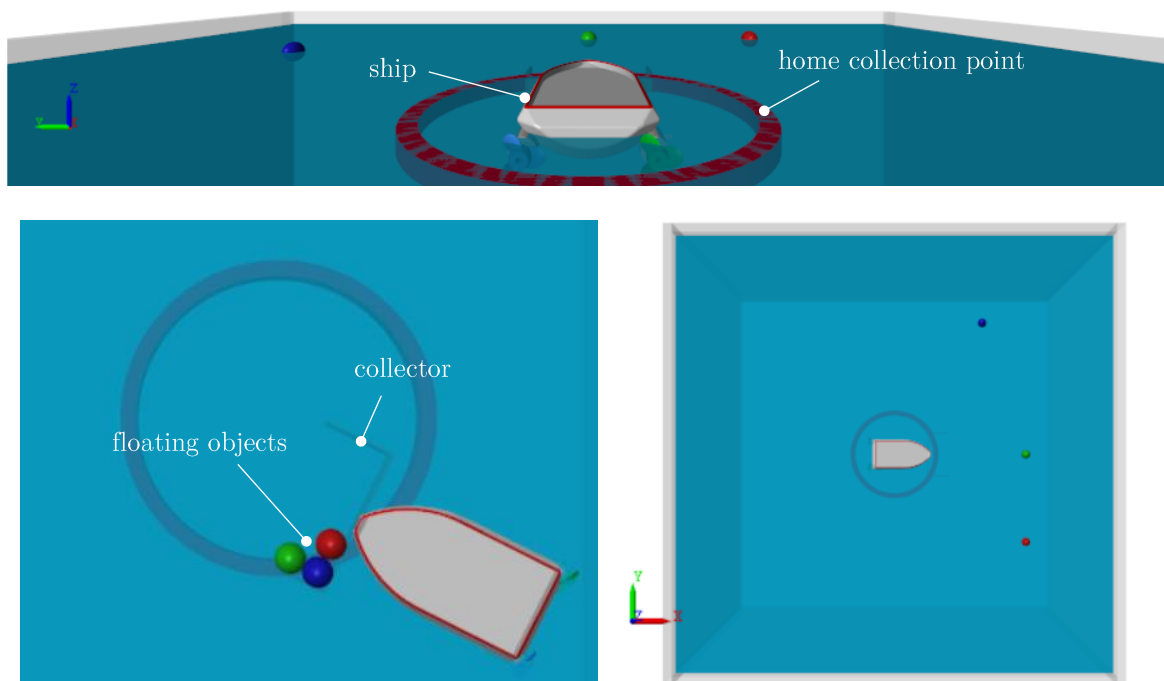

Figure 2: Simulation scenario
- designing a digital motor controller that can autonomously collect all floating objects in the provided scenario and return them to the home collection point (see Figure 2);